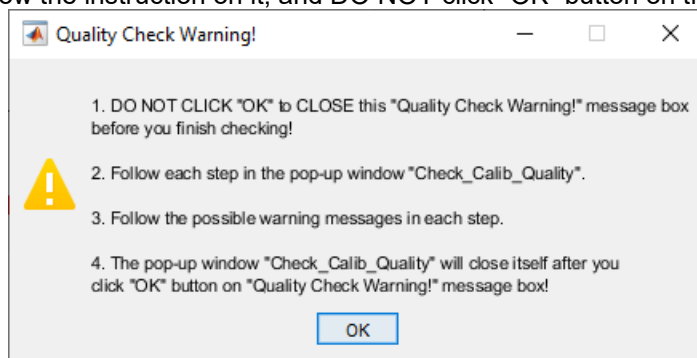

Figure 3.3: "Quality Check Warning!" message box
- There will be a warning message box "Quality Check Warning!", as shown in Figure 3.3. Please read it and follow the instruction on it, and DO NOT click "OK" button on this message box.